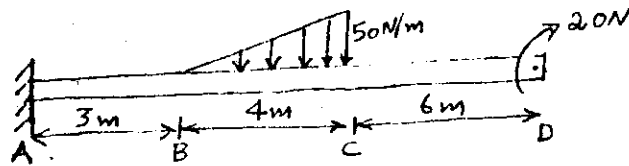

Fig.5
- IV a) Draw the Shear Force and Bending Moment diagrams for the loaded beam shown in Fig.5. (10)